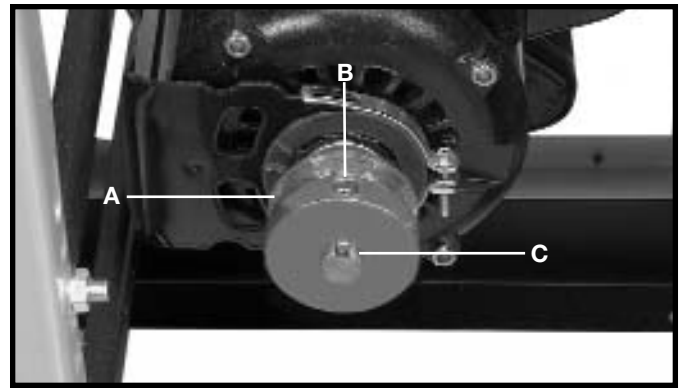

Fig. 7
Attach the motor pulley (A) Fig. 7 to the motor shaft, making sure that the set screw (B) in the motor pulley engages with the key (C) in the motor shaft. **NOTE:** The key is shipped taped to the motor. Remove it, place it on the motor shaft and then attach the pulley over it.
2. Place a straight edge against the belt along the V-groove of both pulleys. Visually check to see that both pulleys are in line. Either pulley can be moved in or out by loosening the set screw (the lower pulley set screw is shown at (B) Fig. 7). After aligning, tighten the set screw. The motor can also be moved on the mounting bars.